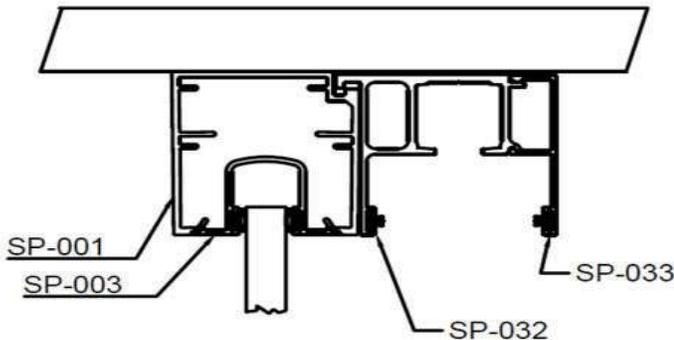

Figure 8: Detail Drawing 18
Step 8: Install deep glazing insert channel at header (see fig. 8).